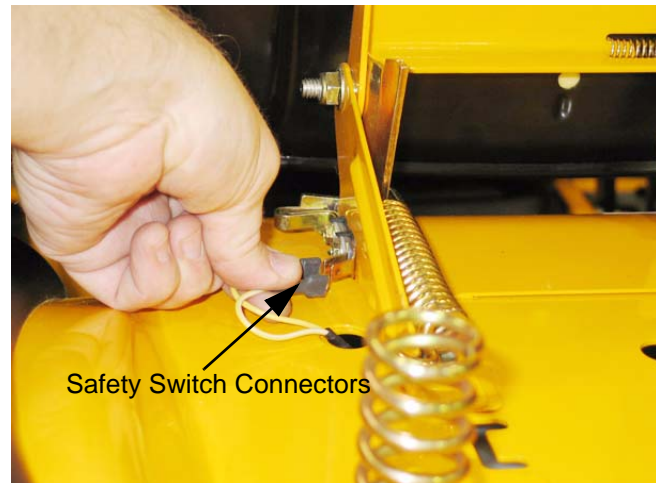

Figure 5.5
- 5.5. Disconnect the two yellow wires from the seat safety switch mounted to the left side seat bracket. See Figure 5.5.